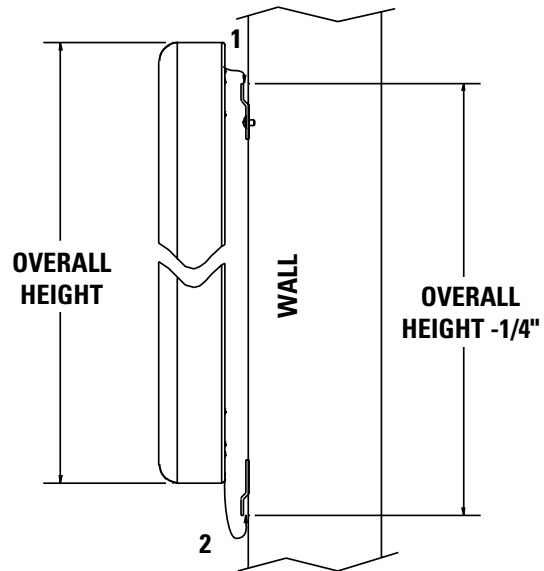

FIGURE 6
2. To install the lower wall bracket, you must measure the overall height of the screen frame and subtract 1/4". This is the dimension from the top of the upper wall bracket to the bottom of the lower wall bracket. See Figure 6.
3. Position the screen with the attached surface onto the top wall bracket as shown in Figure 6. Push down at the center of the bottom frame rail to hook onto the lower wall bracket.
1. Secure the large wall brackets to wall studs at the desired height. Make sure the brackets are level. The top of the frame will be 1/8" above the top of the large wall bracket when mounted. You will need at least 5/8" clearance above the bracket to hang the screen. Figures 6 and 7 show the proper orientation for the supplied wall brackets.
2. To install the lower large wall bracket, you must measure the overall height of the screen frame and subtract 1/4". This is the dimension from the top of the upper large wall bracket to the bottom of the lower large wall bracket. See Figure 6.
3. Position the screen with the attached surface onto the top large wall bracket as shown in Figure 6. Push down at the center of the bottom frame rail to hook onto the lower large wall bracket.